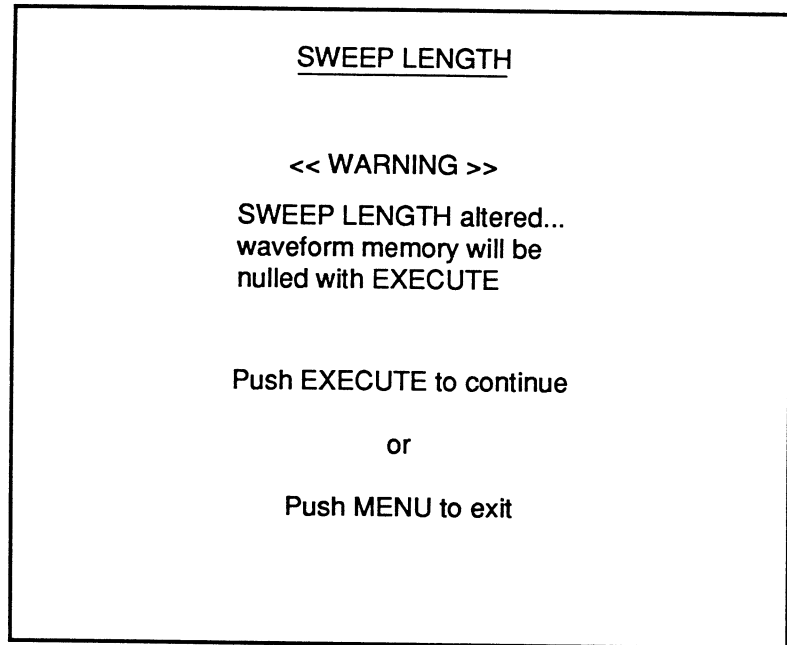

Figure 3 - Sweep Length warning screen
CAUTION: Pressing Execute will erase all of the previously captured data stored in memory when the warning screen in Figure 3 is present.
4. Press the Execute button. The Number Of Cycles and Sweeps Per Cycle selection screen appears (Figure 3).